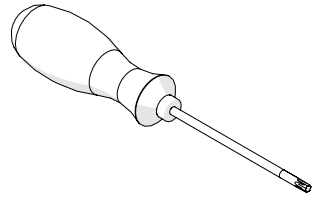

Fig. 40 - Torx driver: T25
- ▶ Torx Driver: T25 (Fig. 40).